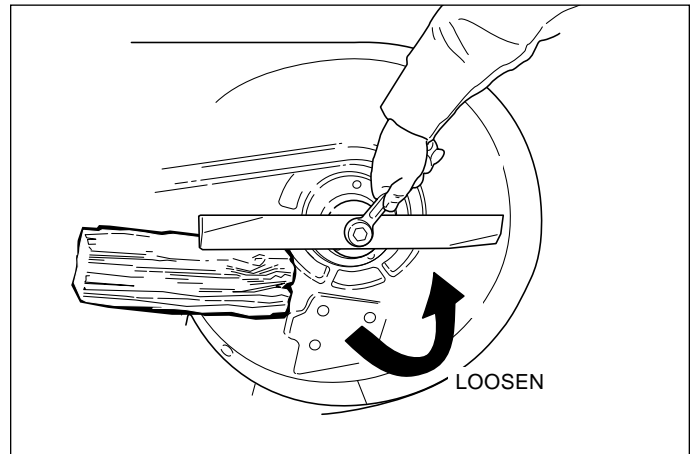

Figure 24. Blade Removal
2. See Figure 24. To remove blade for sharpening, use a block of wood to prevent blade rotation while loosening the capscrew.
3. Use a block of wood (B, Figure 24) to prevent blade rotation while loosening the capscrew.